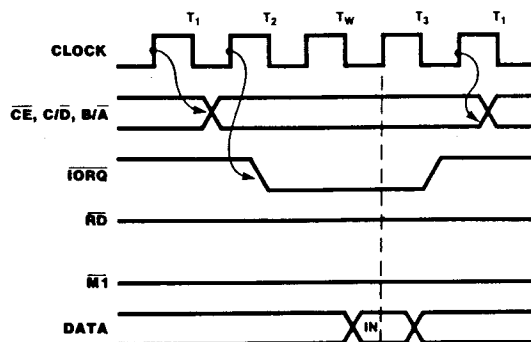

Figure 16. Write Cycle
**Write Cycle.** Figure 16 illustrates the timing and data signals generated by a Z80 CPU output instruction to write a data or control byte into the SIO.